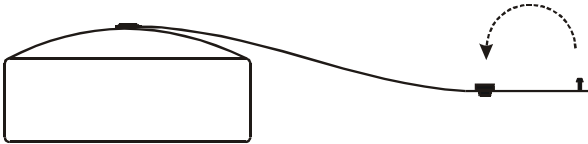

FIGURE 2
Step 2. Snap end of retaining strap for plastic cap into place as shown in Figure 2.